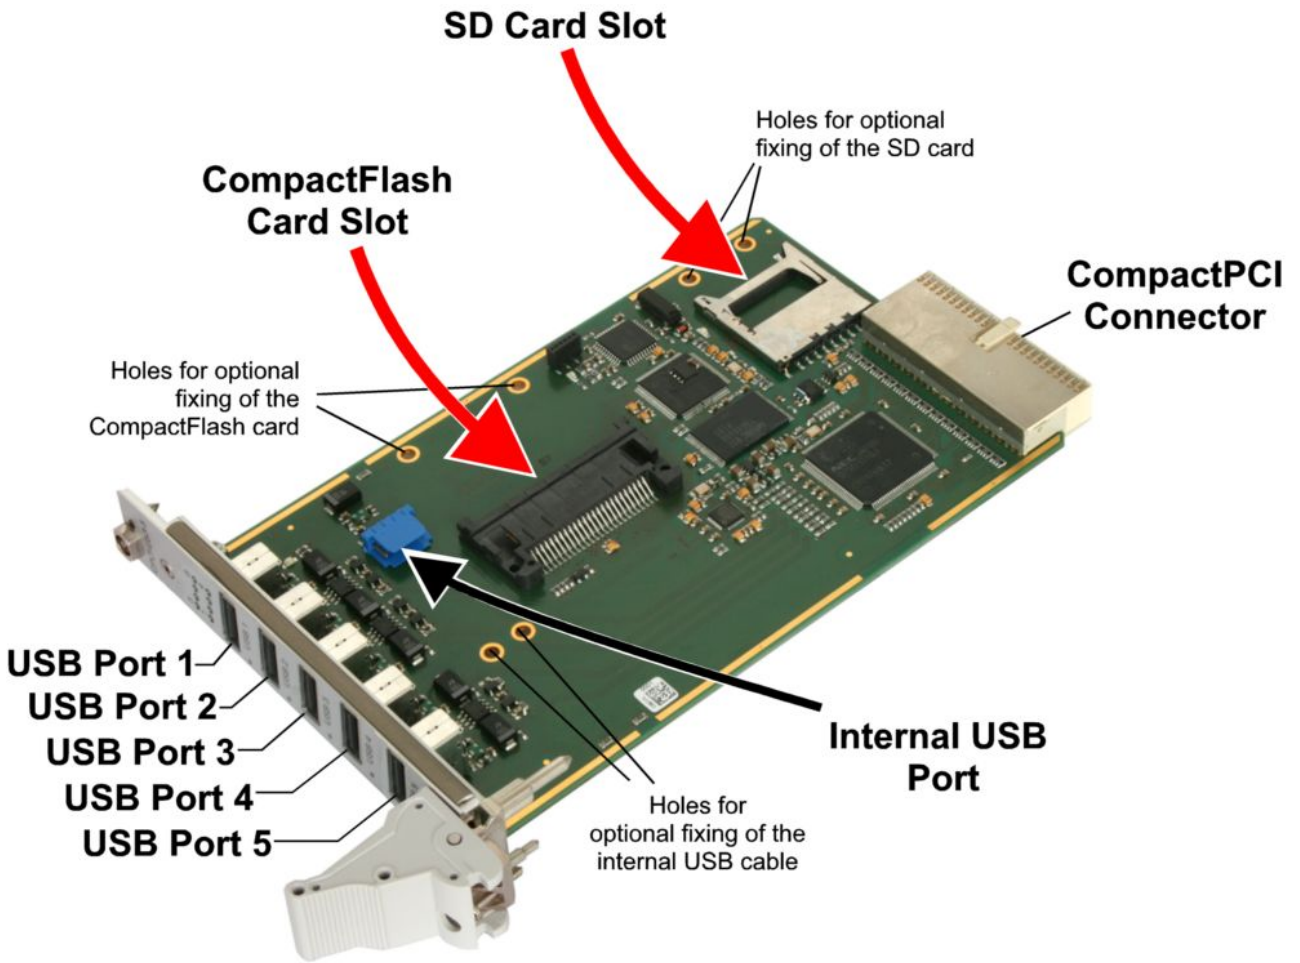

Figure 2: Connecting diagram of CPCI-USB-5
If applicable insert your CompactFlash card and/or your SD memory card into the corresponding slots (see figure 2).
5. Connect the internal USB line (USB port 8) via the 5-pin DUBOX connector (X1010) to the internal USB port (see figure 2).
8. Connect the external USB lines (USB1-USB5) to the USB connectors in the front panel (see Figure 2). The external USB lines are 'hot-pluggable' and can be connected or disconnected later.